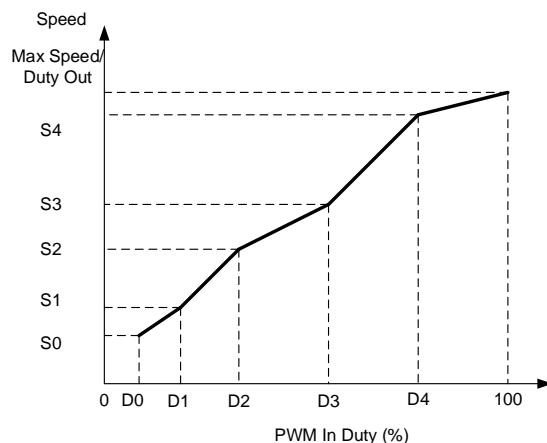

Figure 7: Curve Configurations
- If $SPD_HZERO = 0$, the speed/output duty cycle follows the configured curve (see Figure 7 on page 15).
The MPQ6634-AEC1 provides a curve configuration function. Both the input duty cycle and output duty cycle/speed can be configured via this register (see Figure 7 on page 15).
The S1[7:0], S2[7:0], S3[7:0], and S4[7:0] bits set the speed/output duty cycle when the input duty cycle is set via the D1[7:0], D2[7:0], D3[7:0], and D4[7:0] bits, respectively (see Figure 7).